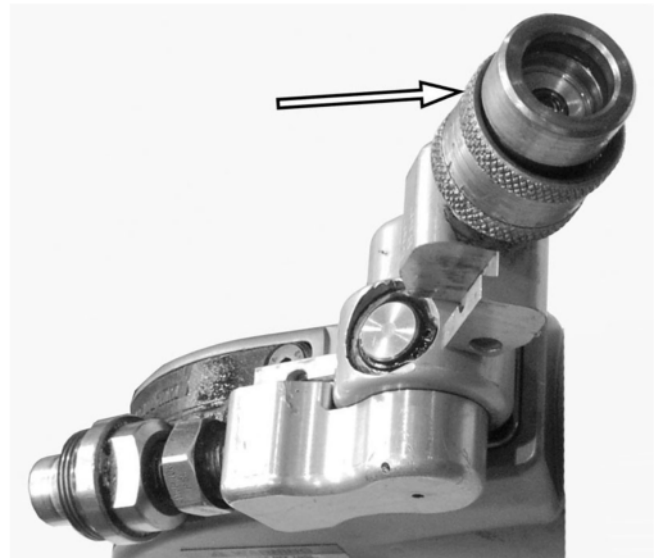

Figure 13. Swivel Yoke Disengagement
4. See Figure 13. Disengage the multiswivel yokes by rotating the advance yoke away from the retract yoke, disengaging the keyways.